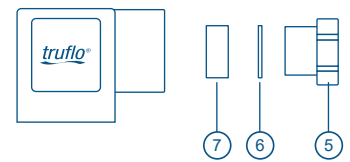

Fig.4
5. Connect the wires according to the wiring diagram (see Fig. 4).